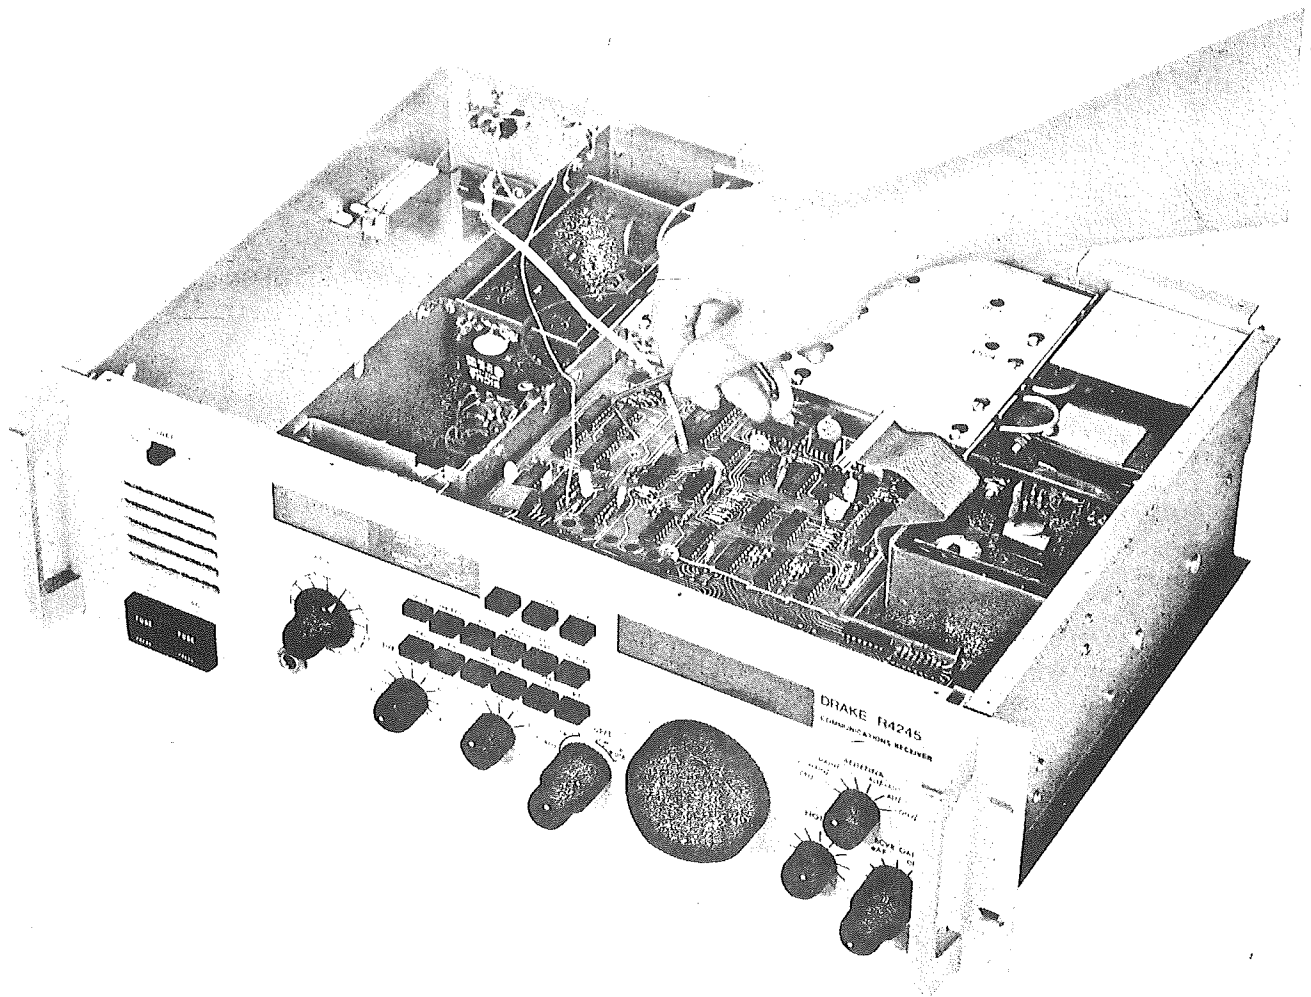

Fig. 3-51 VRTO Digital Board Removal
(Refer to Pictorial Fig. 3-51)
1. Unplug (2) two connectors (one 6-pin and one 26-pin) from the VRTO Digital board. Position cables carefully so that they will be free of the VRTO Digital board when it is lifted out. Remove the retaining screw and lockwasher (adjacent to U32025).
3. Using the card puller supplied with the radio, hook one end under the front edge of the large hole adjacent to U32022 (shown in figure 3-51). Grasp the tool and pull upwards firmly, but slowly, to disengage one 12 pin and one 9 pin connectors. Once the connectors have been disengaged, remove the card puller.